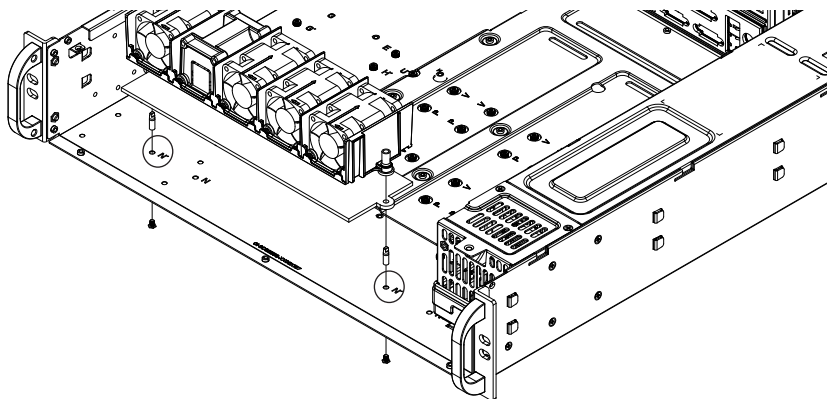

Figure 5-22. Installing Fan Holder Pins
6. Install the removed fan holder pins at the new location, using the supplied hex wrench to tighten it (see circled locations in Figure 5-22).